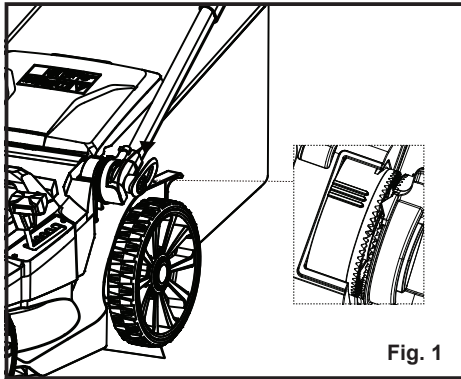

Fig. 1
1. Unfold the lower handle and adjust to the desired operating position. There are three possible positions   (Fig. 1).
2. Rotate the wing knobs clockwise to tighten (Fig. 1). Do not use excessive force; this may damage the knobs.